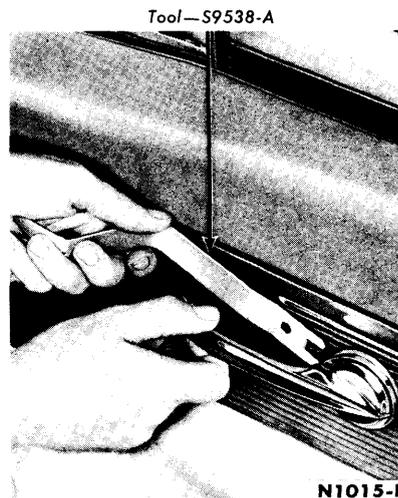
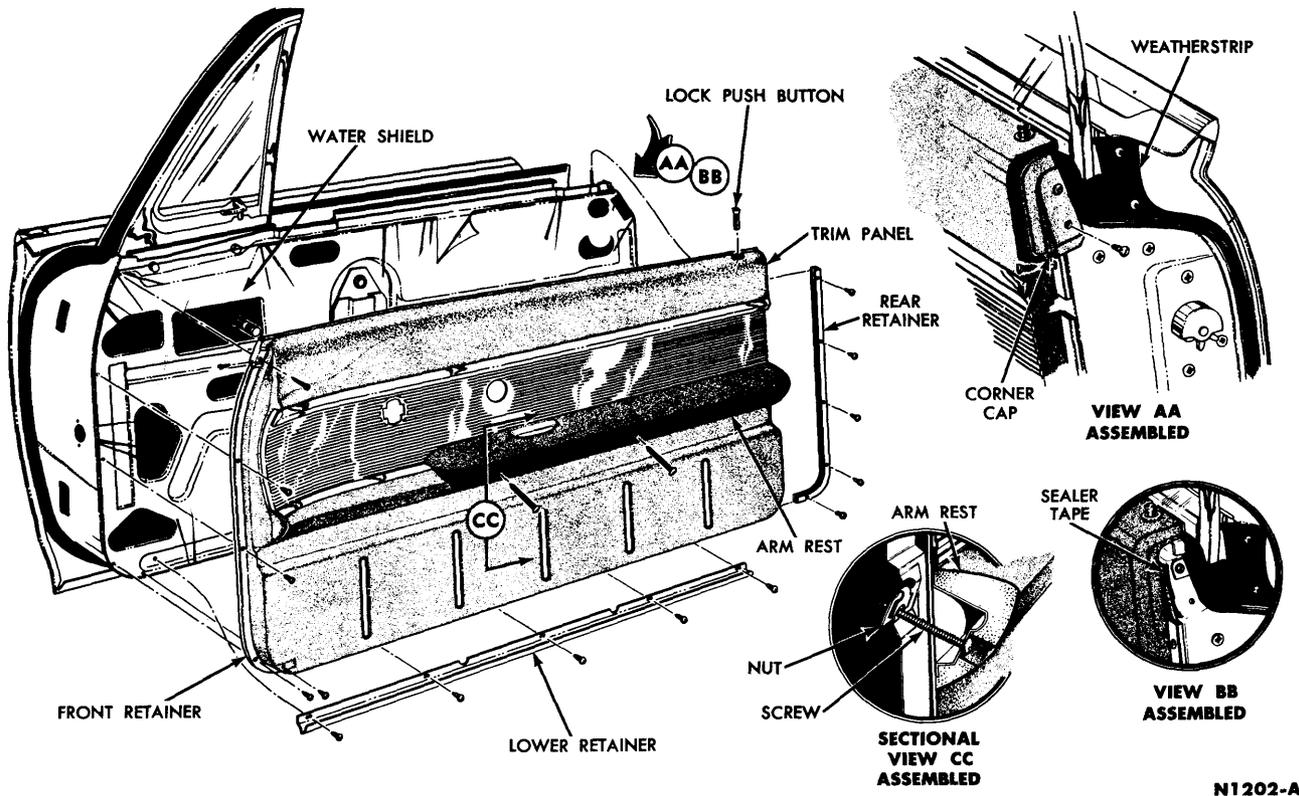

FIG. 74—Inside Door Handle Removal
FIG. 75—Door Trim Panel
1. Remove the control handles (Fig. 74). Remove the arm rest retaining screws, and remove the arm rest (Fig. 75).
2. Remove the lock push button (Fig. 75). Remove the door belt corner cap (Fig. 75). Remove the screws that retain the trim panel front and rear retainer strips to the door inner panel, and remove the trim panel. If the door has electric windows, disconnect the door switch wires at the switch. If the internal area of the door has to be checked,